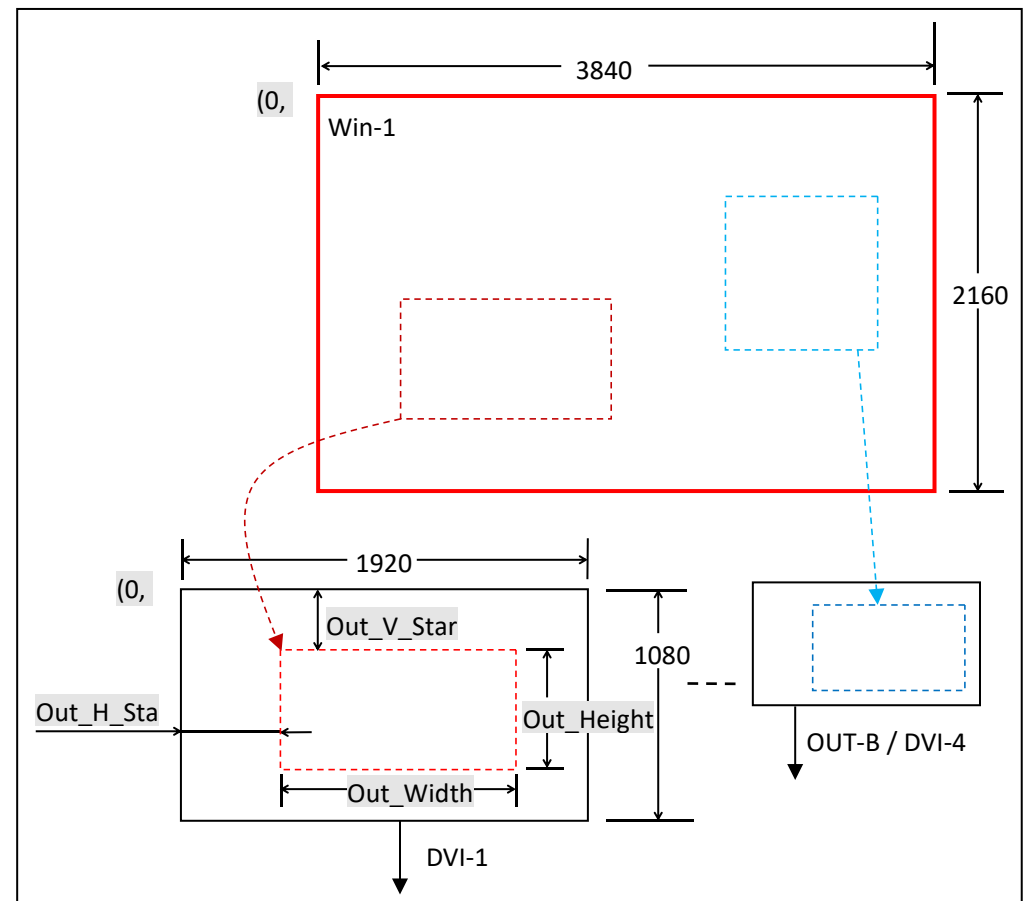

Figure 4-7
6.2) Refer to Figure 4-7, the picture in red dotted frame is DVI-1 output image, defined by the following 4 parameters: